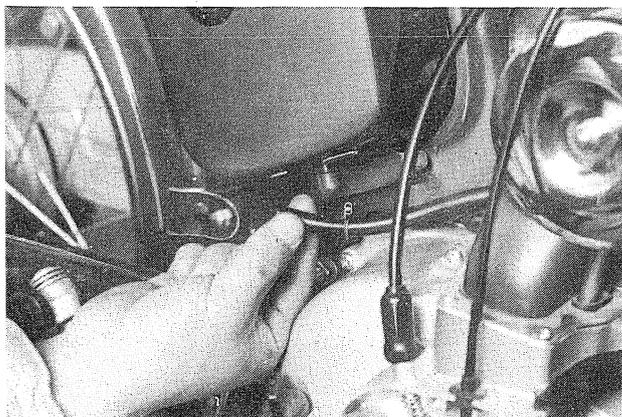

Fig. 3-1-14
11. Disconnect the oil pipe. (Plug the line to prevent oil from flowing out of the pipe.) (Fig. 3-1-14)